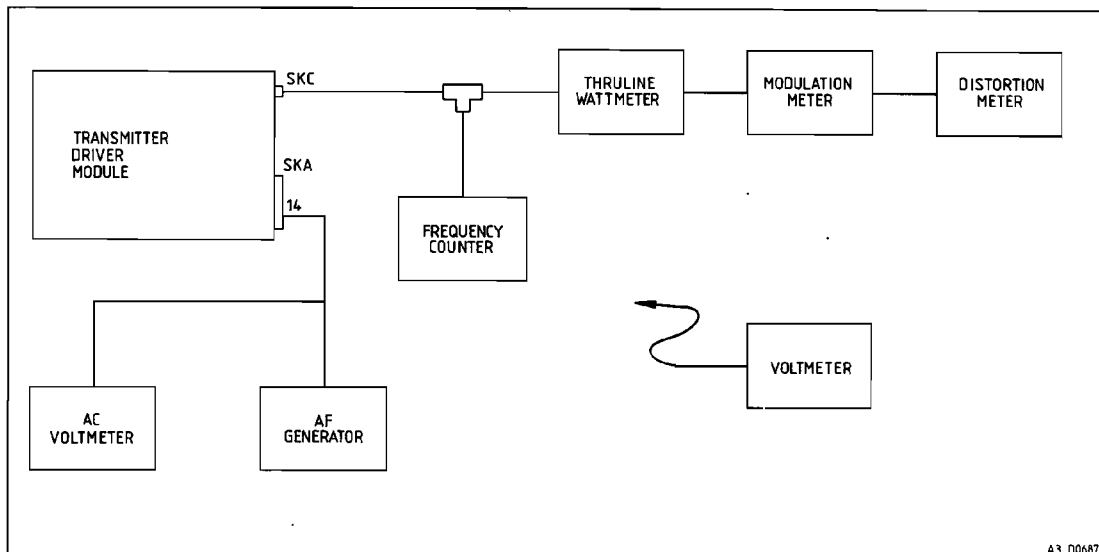

Fig. 1 Transmitter Driver Test Circuit
7. Connect the test equipment to the module as shown in Fig. 1.